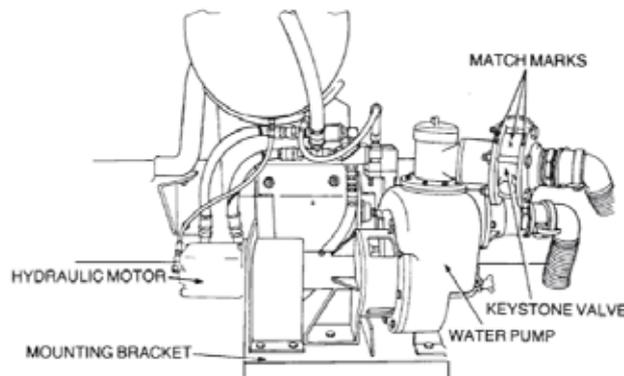

Figure 39 Keystone Valve Match Marks
- e. Match mark the Keystone valve to the flanges (Figure 39) then remove the four bolts, nuts and washers, while supporting the outer flange and the Keystone valve.